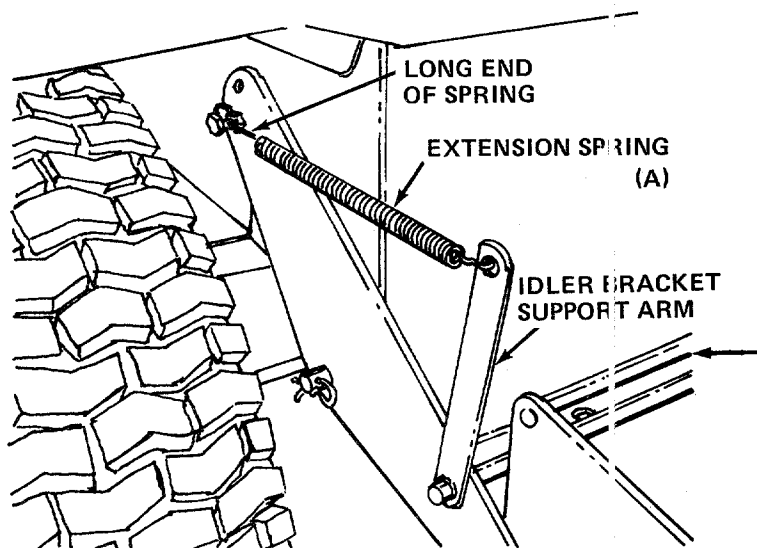

FIGURE 17
27. Hook the short end of extension spring (A) to the idler bracket support arm on the left side of unit. Hook the longer end of spring to the hex bolt on support pivot bracket which was assembled in step 7. See figure 17.